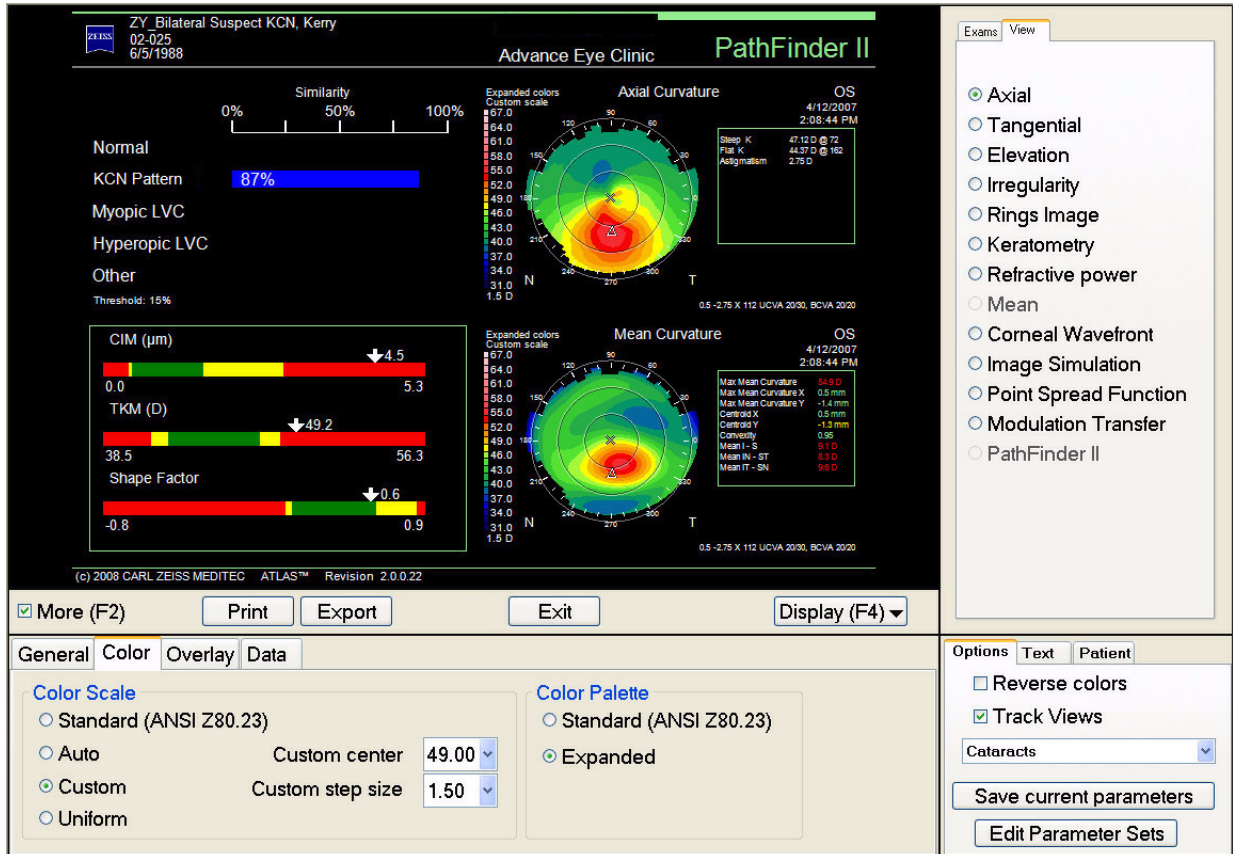

Figure A-3 PathFinder II Screen View Editor
1. Select the **More (F2)** checkbox to show the EXAMS/VIEWS window (Figure A-3).